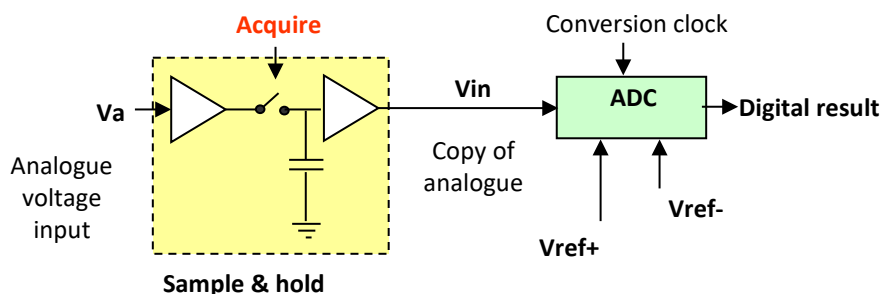

Figure A8.
- A8.** What is the purpose of a sample and hold circuit in analog to digital conversion process shown in Figure A8?